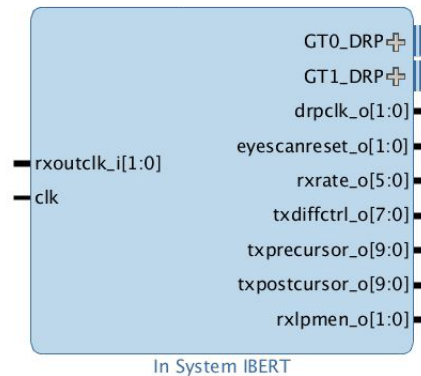

Figure 5-3: ISI Core
- Click **OK** to generate the IP. This will add the ISI core as shown in Figure 5-3.